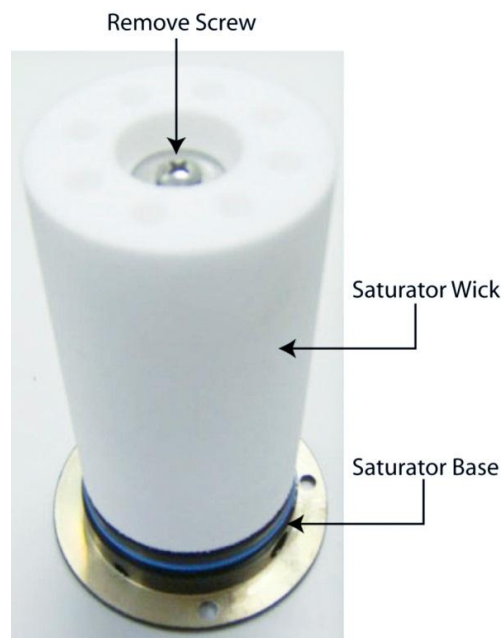

Figure 8-6
9. Remove the 2-inch screw securing the wick to the base as indicated in Figure 8-6. Pull the wick straight off the base. **Avoid using a twisting motion** because the wick is keyed onto the base with dowel pins and the soft wick material can rip.